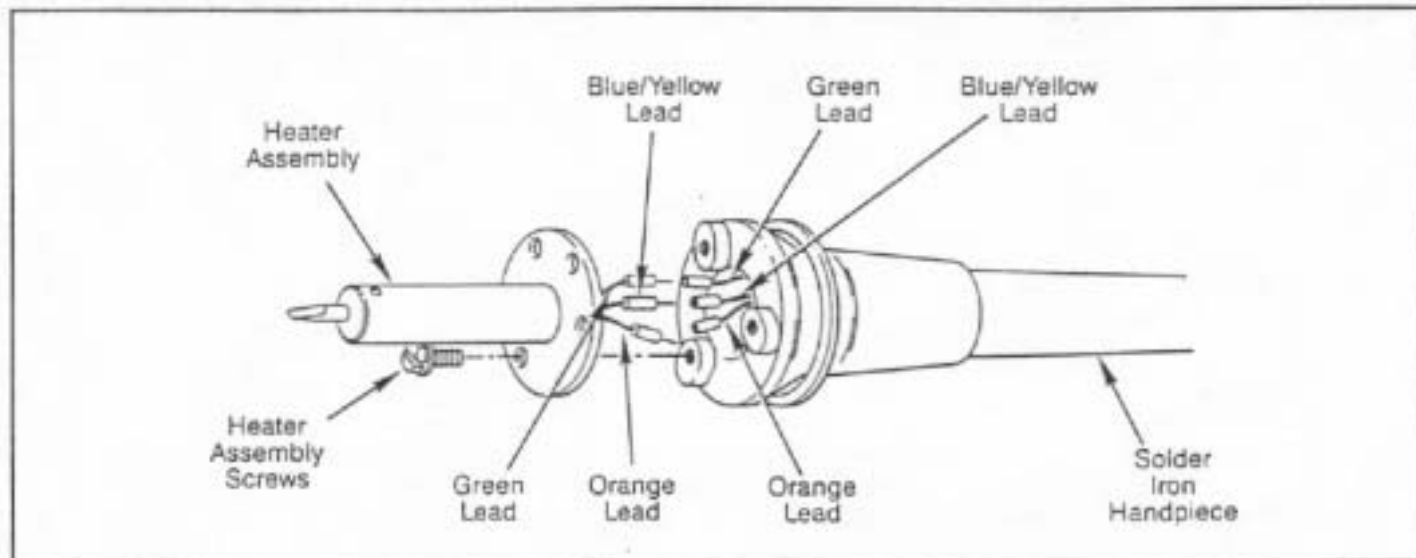

FIGURE 8. SOLDERING IRON HANDPIECE HEATER ASSEMBLY REPLACEMENT
- remove three (3) screws from Heater flange and let Heater hang loose, refer to Figure 8. (**NOTE:** *DO NOT* pull Heater Assembly from Handpiece at this time).
- using Tip Tool or needle nose pliers, disconnect the three (3) leads from the Soldering Iron Power Cord connectors (refer to Figure 8). Remove Heater Assembly from Handpiece.
- using Tip Tool or needle nose pliers, carefully plug the three (3) color coded leads (orange, blue and green) into color coded receptacles of the Soldering Iron Power Cord.
- using Tip Tool, loosen the Heater set screw ( $\frac{1}{4}$  turn). (Refer to Figure 8).